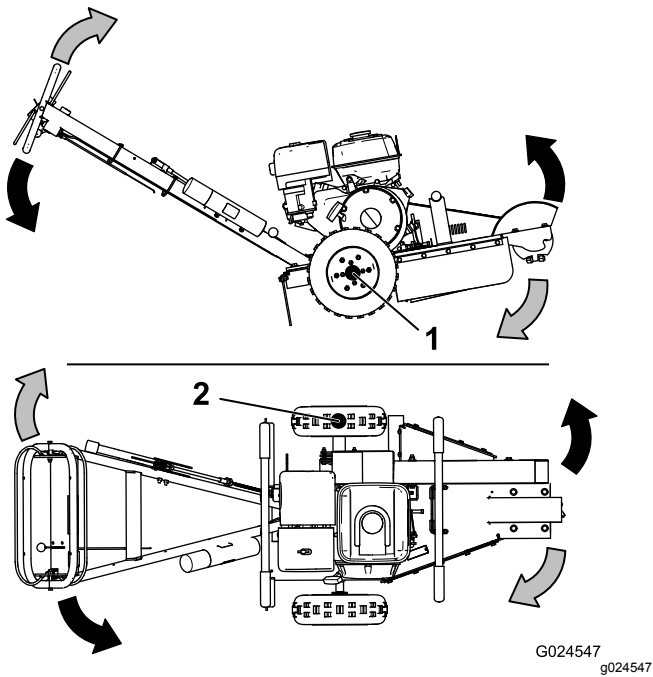

Figure 9
2. Push the handle down enough to raise the cutting wheel off the ground (Figure 9).
5. Swing the cutting wheel to 1 side (Figure 9), then lower it approximately 1 to 2.5 cm (1/2 to 1 inch) into the front-top corner of the stump.